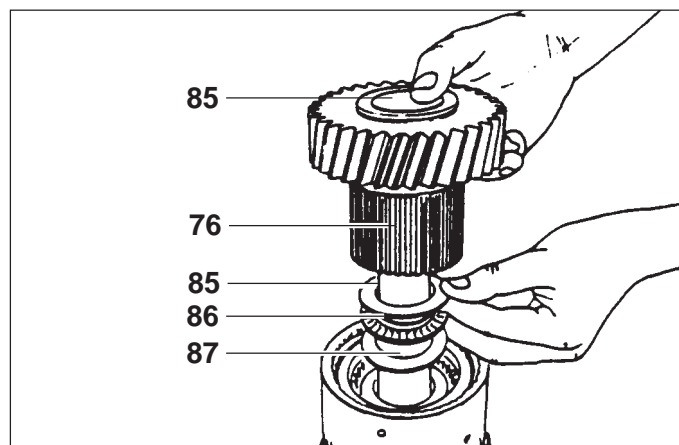

Fig. 27
- 7) Install on second spacer (87), the thrust needle bearings (86) and thrust washer (85) install clutch hub pinion (76) and make sure tat all inner clutch plates (71) are engaged on spline pinion end. Fit on clutch hub pinion (76) thrust washer (85) and needle bearing (86) (Fig. 27). Install the thrust washer (78).
- 8) Verify with a dial gage that a 0.3 - 0.5 mm, end play between needles of bearing (86) and race (78) is
- assiale a rulli (86). Montare il rasamento (78) (Fig. 27).